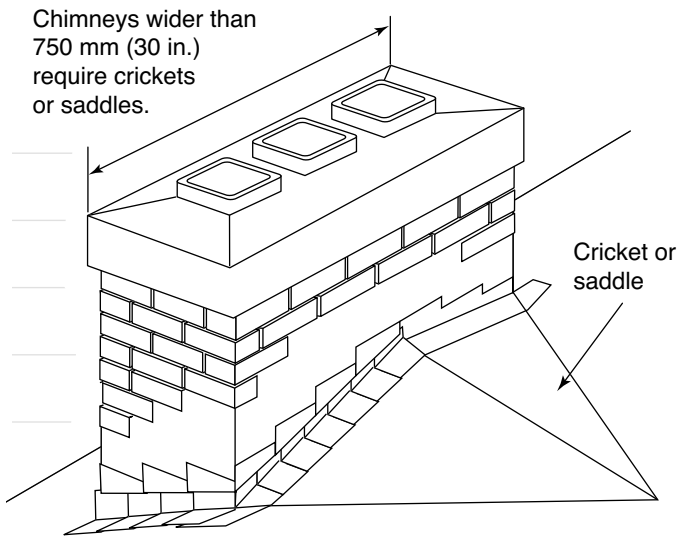

FIGURE 11
- ◆ Where the upper side of a chimney on a sloping roof is more than 750 mm (30 in.) wide, protect the intersection between the roof and the chimney with sheet-metal flashing that extends up the chimney to a height equal to and not less than one sixth the width of the chimney, and not less than 150 mm (6 in.). It must extend up the roof slope to a point equal in height to the flashing on the chimney, but not less than one and a half times the shingle exposure. If you do not do this, you must install a chimney saddle (see Figure 11).